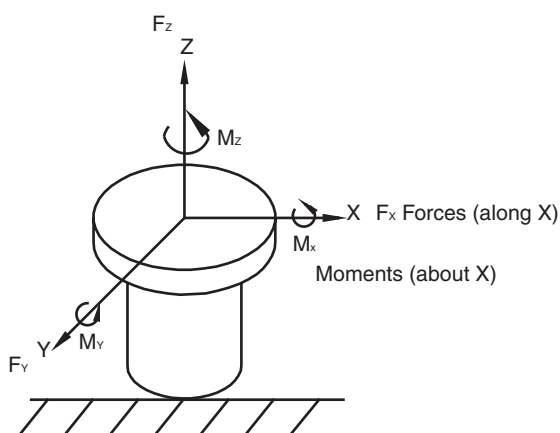

Figure r-1
The primary forces encountered due to counterbalancing are translation and torsion. These forces are illustrated in Figure r-1. The forces can be further described along or about the 3 major axes of a coordinate system at the mounting base. The translation forces (F) along the axes and the moments (M) about the axes will result in deformations of the base.